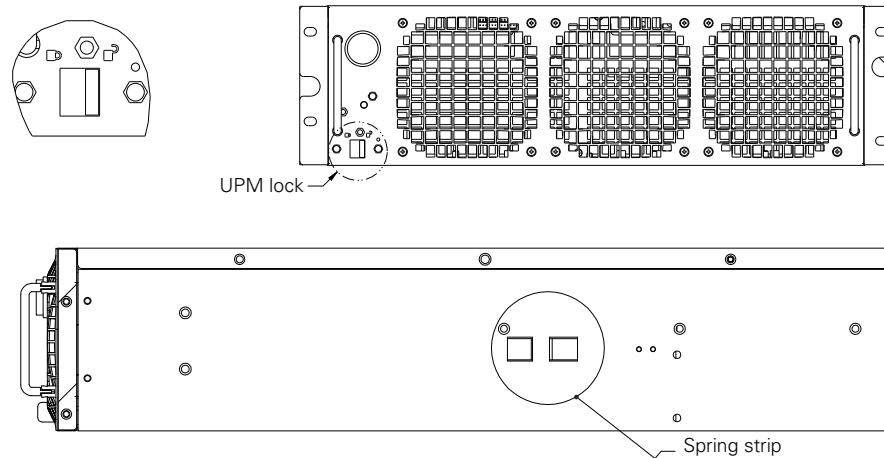

Figure 6-7: Removing the UPS Module Online
1. set the position lock located on the front panel of the module to " " (see Figure. 6-7) and Set the input breaker of the UPS module rear to OFF position.